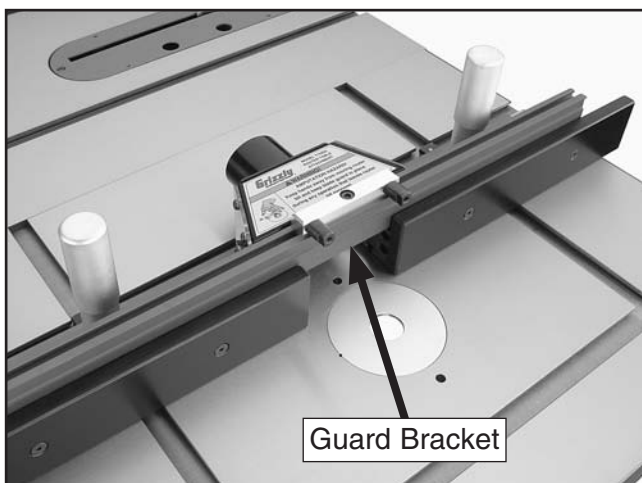

Figure 17. Guard bracket attached to the fence.
12. Slide the attached square nut on the guard bracket into the top fence T-slot, center it with the dust hood and dust port, then tighten the cap screw to secure it in place, as shown in **Figure 17**.